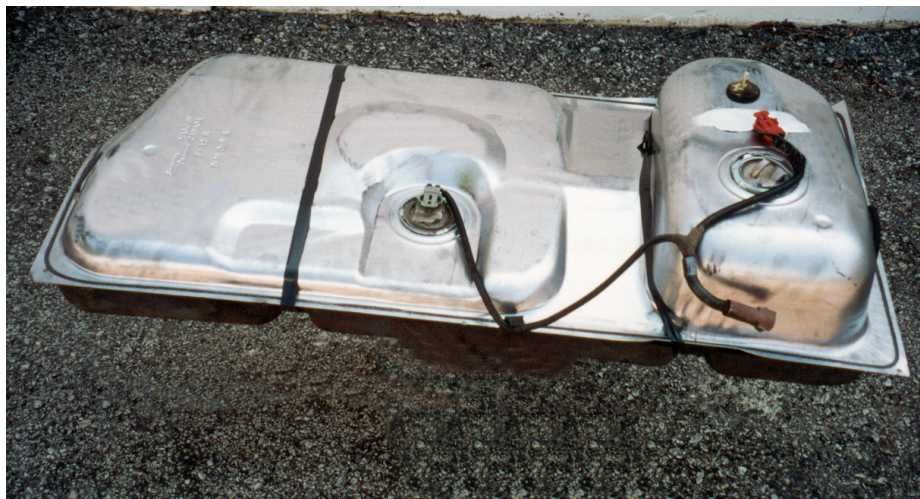

Figure 1-6
- 1-22. From the old OEM fuel tank, remove the filler neck rubber grommet, fuel level sender, vent and vent grommet, and wiring harness. Reinstall each of these components in the new Aeromotive fuel tank while inspecting them for any damage. If any of the OEM components are damaged replacement parts are available through your local Ford dealer or auto parts store. See figure 1-6.